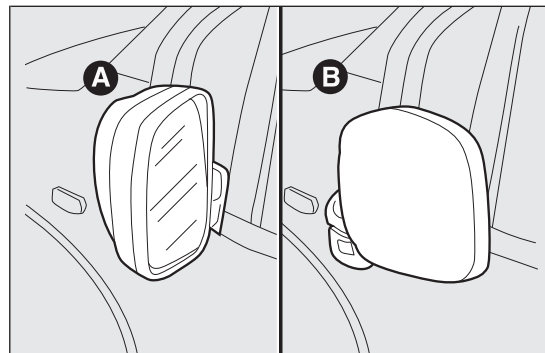

fig. 27
When required (for example when the shape causes difficulty in narrow spaces), the mirrors can be folded by moving them from position A fig. 27 to position B.
*When driving, the mirrors shall always be in position A. fig. 27*